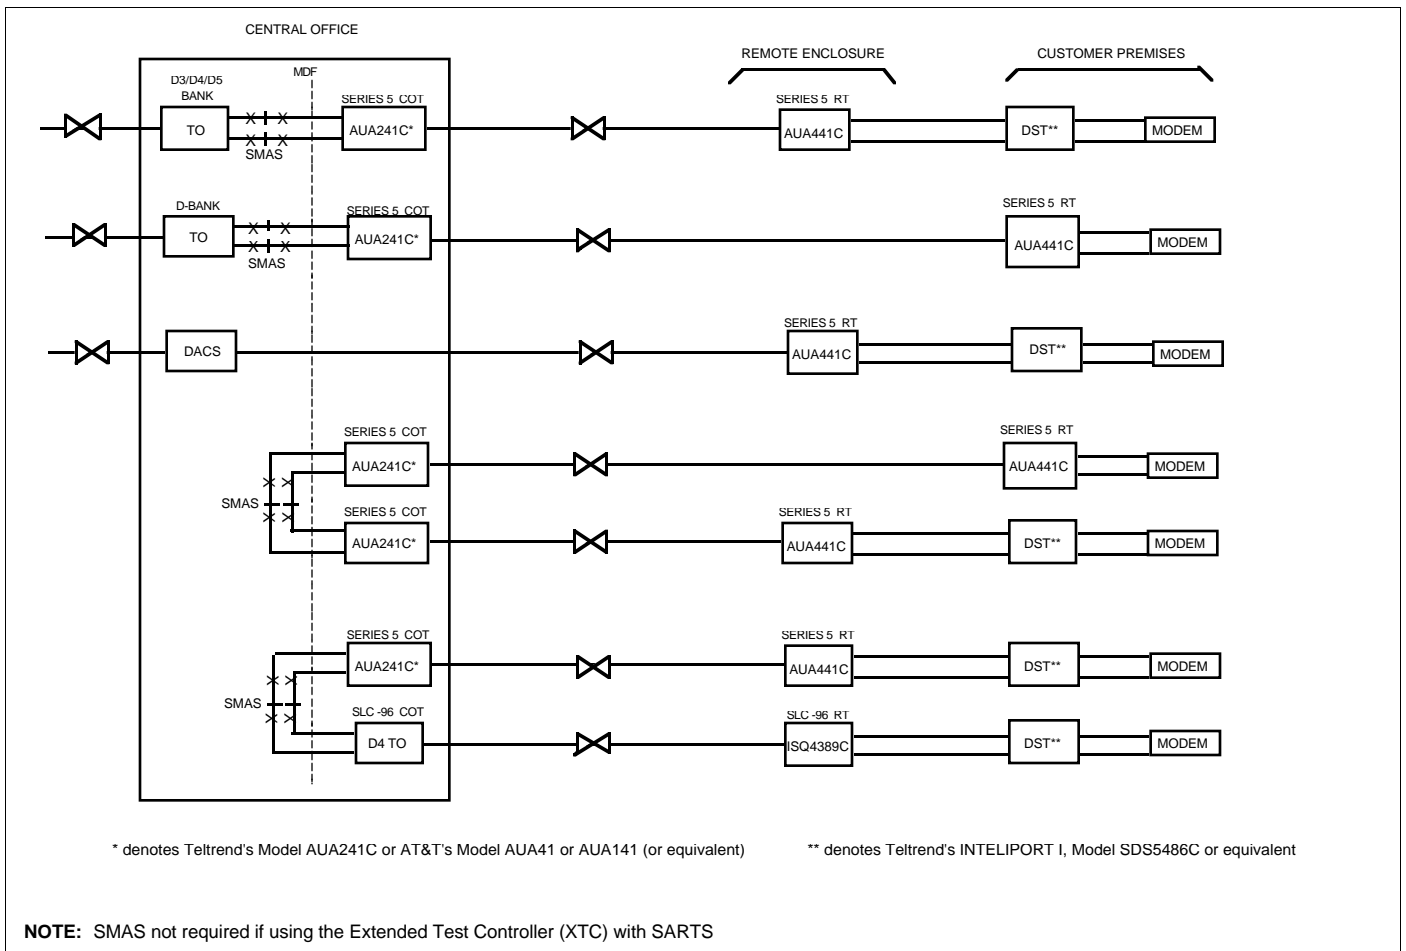

Figure 1. AUA441C Typical Application
2.01 Teltrend's AUA441C may be used in all Remote Terminal arrangements. The AUA441C is used to interface a 4-wire TO or ETO analog facility to the common equipment of a SLC Series 5 channel bank assembly. The AUA441C serves as an intelligent 4-wire ETO when used with Remote Terminals located in remote enclosures (huts, CEVs, cabinets). If the Remote Terminal is located on the customer's premises, and is a short cable distance from the network interface, the AUA441C can be provisioned as a Data Station Termination (DST). In this arrangement, the AUA441C can be used to eliminate the need for a separate DST unit. Refer to Figure 1 for typical applications of Teltrend's AUA441C in a Private Line Data circuit application.
2.05 Teltrend's AUA441C may be used to interface the Remote Terminal-end of a 4-wire TO circuit with customer premises equipment. Figure 1 shows a typical application where the AUA441C is used instead of a standard DST. In this application, the Remote Terminal is physically located close to the customer's network interface. The network interface should be within 0.5dB at 1000Hz (877 feet of 26 gauge cable, or 1087 feet of 24 gauge cable).
5.03 In most applications, tones are applied using a remote test system (SARTS). The remote test system gains access to the circuit via test access connectors (SMAS) installed in the CO portion of the circuit. Refer to Figure 1 for typical SMAS connector locations. In some cases, tones may be applied locally by a test person. The point in the circuit to apply these tones depends on the location of the installer (COT, RT or at the customer premises) and the type of test equipment available. Circuit access from the Digital side is discussed in paragraphs 5.04 through 5.11. Circuit access from the Analog side is discussed in paragraphs 5.12 through 5.18. Command and acknowledgement tones received from the AUA441C are described in Sections 6, 7 and 8.